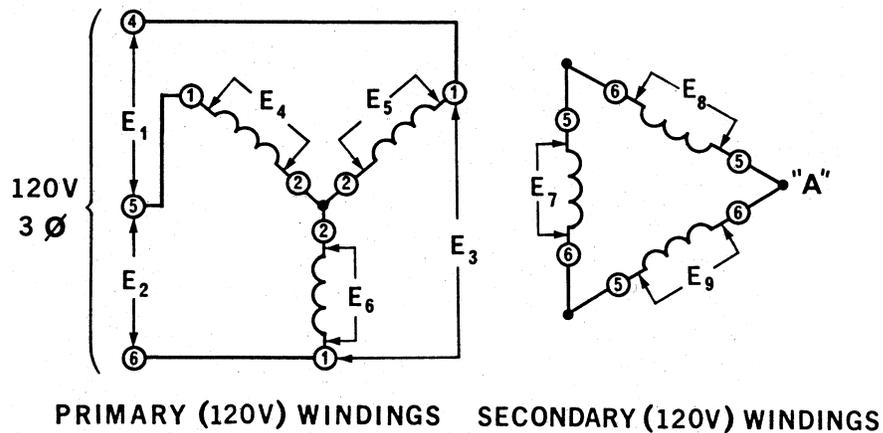

Figure 48-7.
- 3. a. The circuit shown in Figure 48-7 has three transformers connected in a \_\_\_\_\_ configuration.